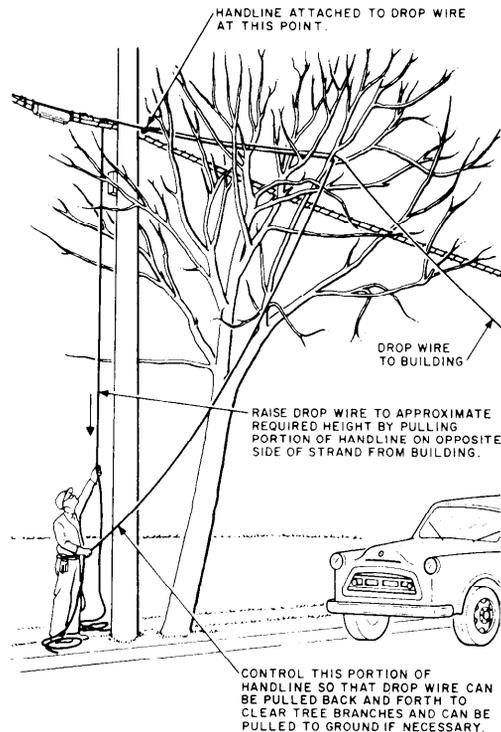

Fig. 11 - Raising Drop Wire
- (5) When no vehicles or pedestrians are approaching, raise the drop wire by pulling the end of the handline placed over the strand or pole attachment. If necessary, the handline can be pulled in either direction to work the drop wire into position as shown in Fig. 11.